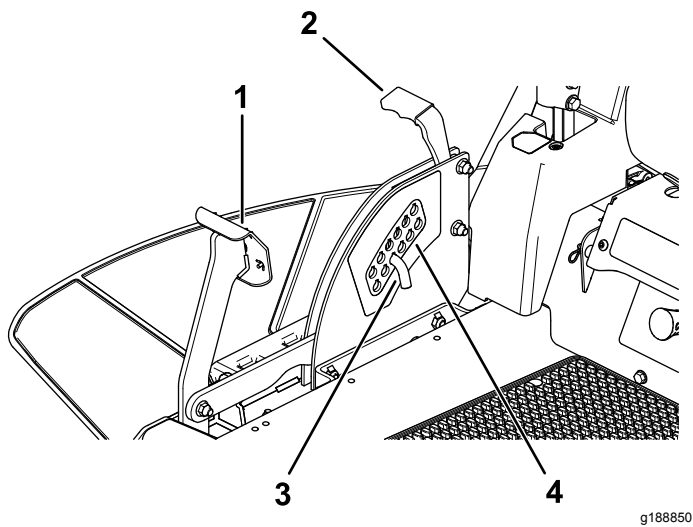

Figure 29
1. Push on the deck-lift pedal with your foot and raise the mower deck to the transport-lock position (also the 114 mm (4-1/2 inch) cutting height position) as shown in Figure 29.
2. To adjust, remove the pin from the height-of-cut bracket (Figure 29).
3. Select a hole in the height-of-cut system corresponding to the desired height of cut and insert the pin (Figure 29).